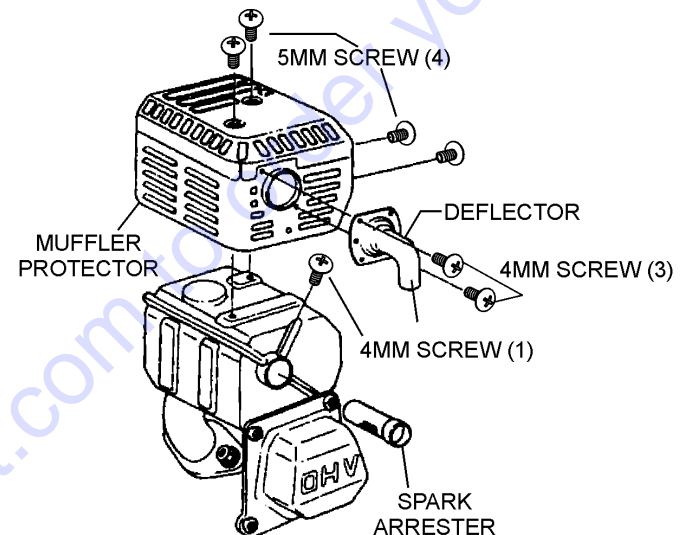

Figure 50. Spark Arrester Removal
1. Remove the 4 mm screw (3) from the exhaust deflector, then remove the deflector. See Figure 50
2. Remove the 5 mm screw (4) from the muffler protector, then remove the muffler protector.